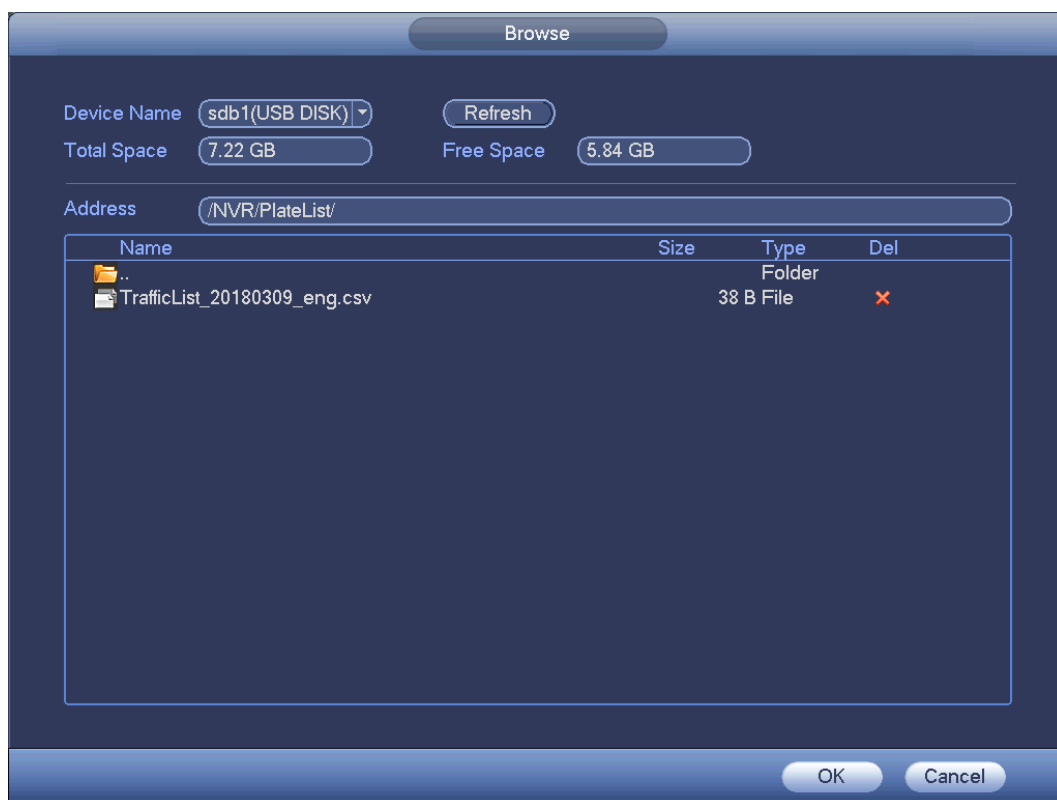

Figure 4-110
- Click . Select Device Name and Address in the Browse interface and click OK to export plate information. See Figure 4-110.